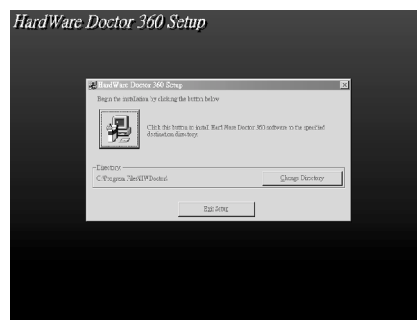

Figure 5
- Click on the [OK] button, the screen will appear Figure 5. Then type in "**C:\Program Files\HWDoctor**" (assuming that your CD-ROM drive is drive D:). The installation program will now guide you through the rest of the installation process.